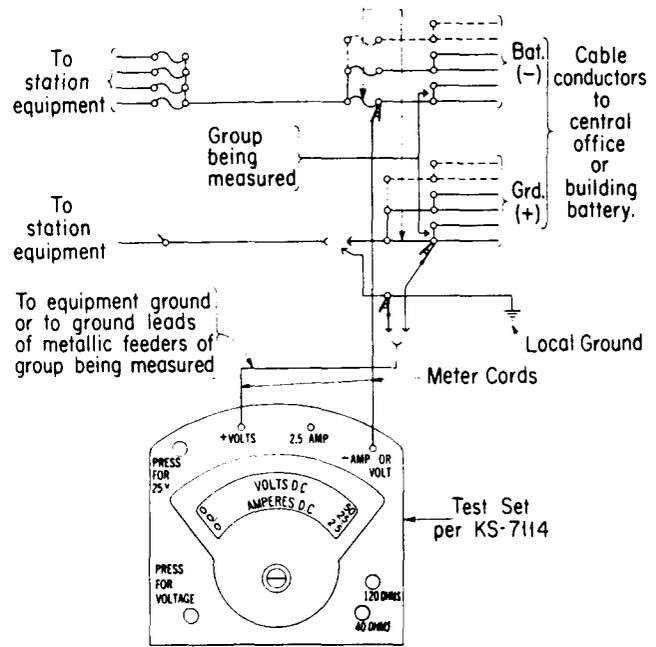

Fig. 4
3.20 To measure an individual group, isolate the group by removing its fuse and the ground connection from the other groups, and make the meter connections as shown in Fig. 4.